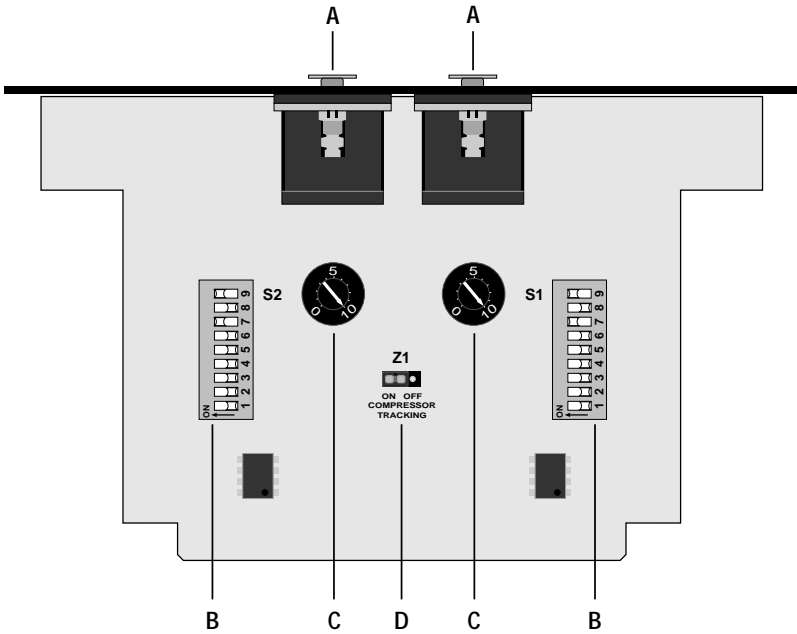

Fig. 2.1 P.I.P.-EDCb (Bottom View)
3. Adjust each channel's **compressor threshold** using the compressor threshold pots (see Figure 2.1, “C”). Each
4. Move the *P.I.P.*'s **tracking jumper** (Z1) to the "ON" position to make the compressors track each other. In the "OFF" position, each compressor will operate independently (refer to Figure 2.1, "D").